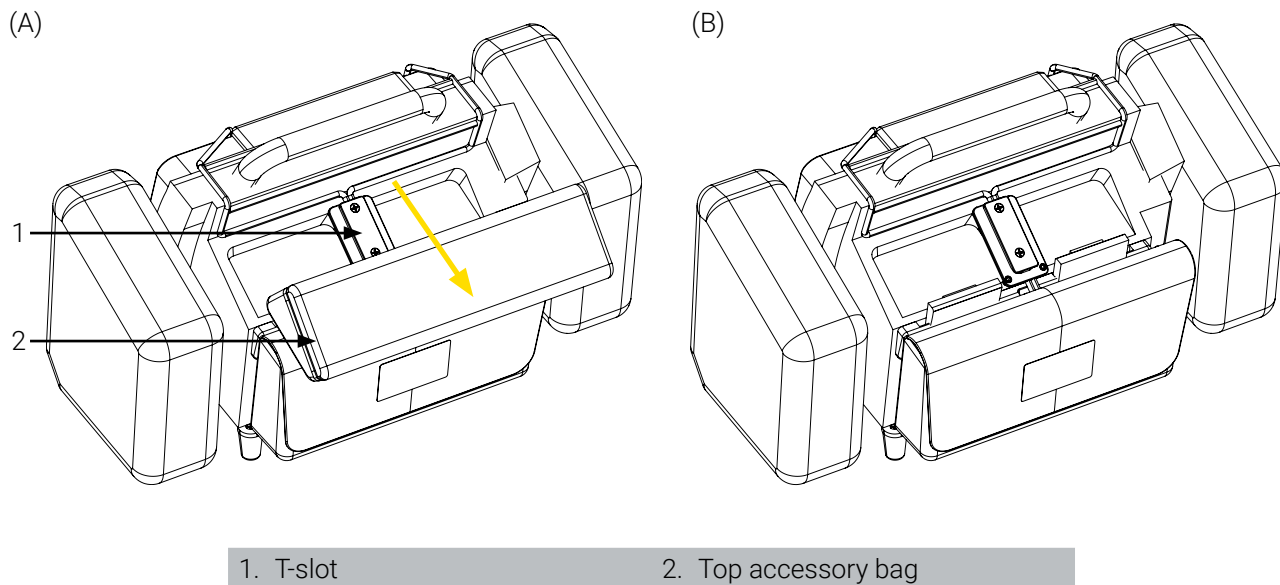

Figure 4: Removal of the top accessory bag
1. Grab the top accessory bag with both hands, then slide the bag downwards on the t-slot of the Bracket Pro Serie 35 - LP (Figure 4).